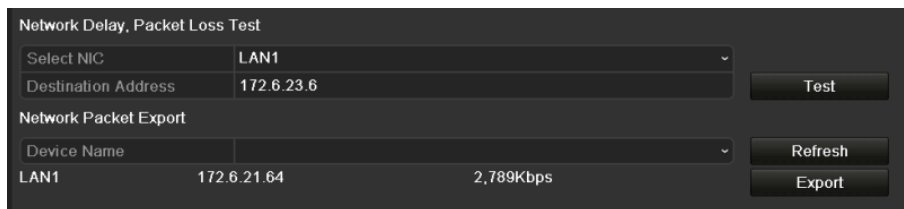

Figure 11-27 Network Detection Interface
Step 2 Click the **Network Detection** tab to enter the Network Detection menu, as shown in Figure 11-27.